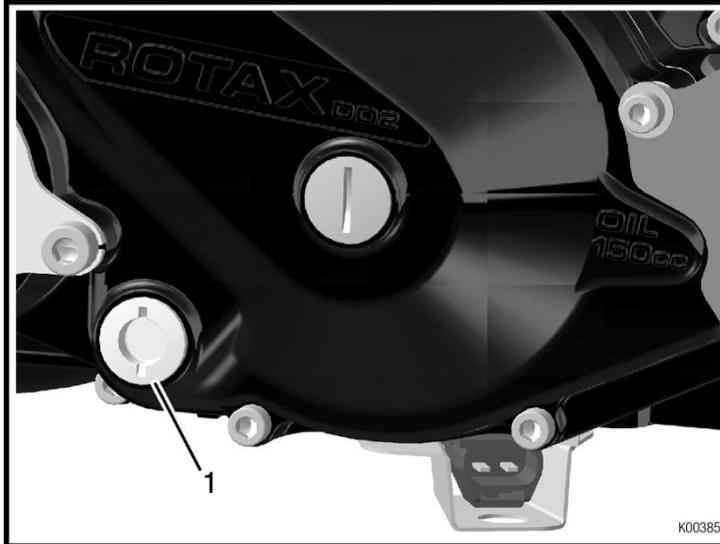

Fig. 32
- ➔ The oil level can be checked on the inspection glass (pos. 1). It should reach approximately to one third of the inspection glass, see *Fig. 32*. If the oil level is not sufficient, replenish oil as described in the following steps.